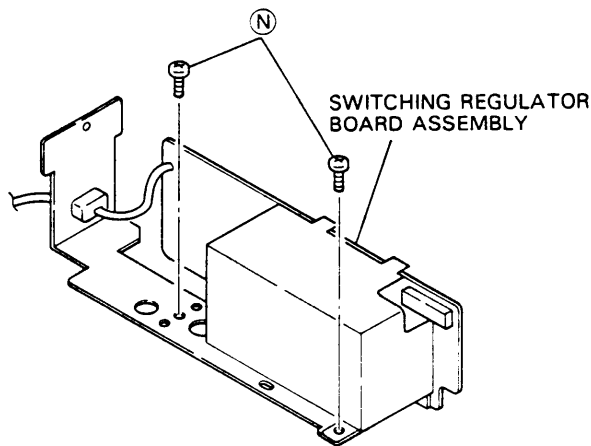

Fig. 1-1-12
2. Refer to Fig. 1-1-12 and take out 2 screws (N) from the switching regulator board assembly.